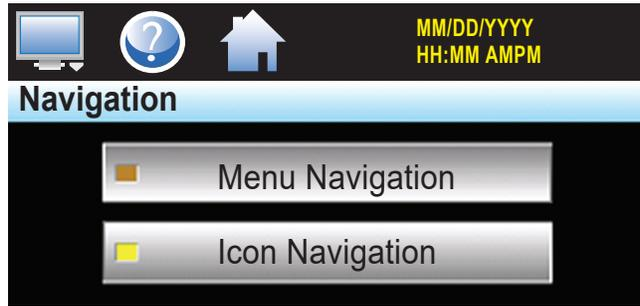

Figure 17. Navigation Selection Screen
2. Touch menu type, indicator will illuminate to indicate current selection (Figure 17).